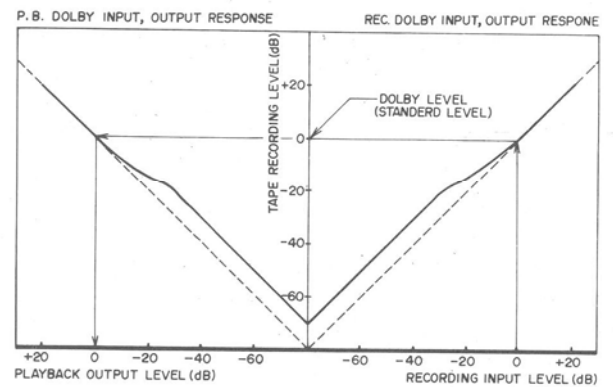

Fig. 47
In formula 3, Dolby recording circuit output signal e_0 is recorded at a 10 dB higher level in relation to a 30 dB lower input level than the Dolby level. (Refer to Fig. 47)
- 3) When input signal e in gradually becomes large, the D.C. voltage which was amplified at TR8 and rectified at D6 also becomes large. When this happens, TR5(FET) impedance gradually approaches zero, For this reason, e signal level is greatly decreased by FET operation. That is to say that with regards to signal over the Dolby level (Fig. 47), the signal supplied to the base of TR6 is greatly reduced and the situation develops wherein $e \gg me = e_2$. For this reason, formula 3 becomes:
Therefore, relative to the signal above the Dolby level, ratio of input and output becomes an equal 1:1. (Fig. 47)
- 2) Also TR7 output signal is changed by the characteristic of diodes D3 and D4 and is supplied to point (b) as e_2 in Fig. 47. This e_2 signal is added at point (b) as the reverse phase of signal e , and this signal is dolbyized to become output signal e_0 . Expressed by a formula, this becomes: